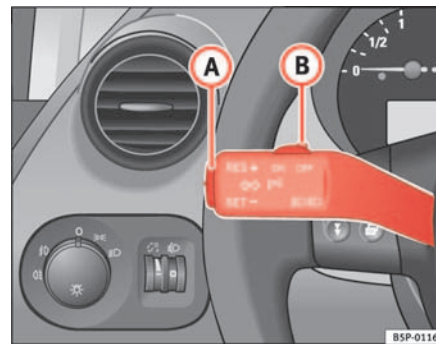

Fig. 140 Turn signal and main beam lever: switch and rocker switch for CCS
- Press the lower part of the rocker switch once briefly when you have reached the speed you wish to set **SET** ⇒ fig. 140 (A).